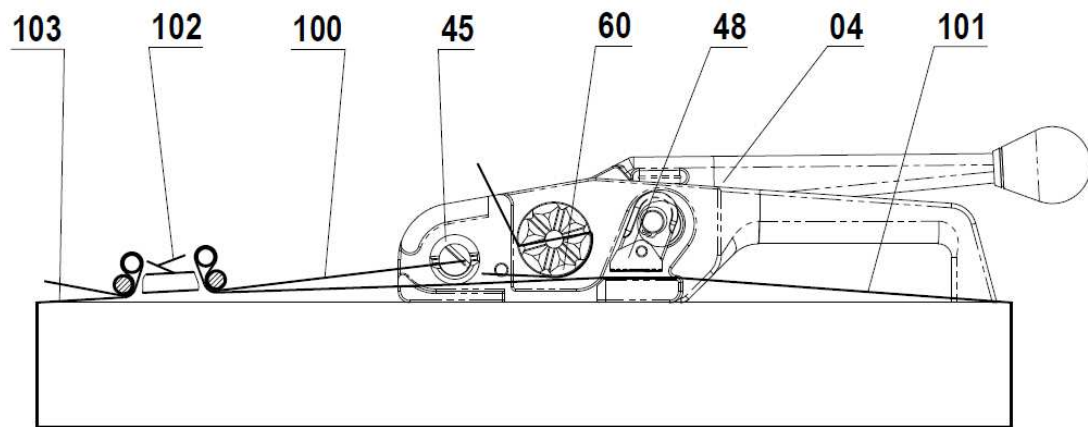

Fig. 5
4. Once satisfactory tension is achieved the strap is ready to be cut. Push down on the **Tension Handle 04** until the strap is cut and slide the tensioner to the right to release the strap from under the **Gripper Foot 48** as shown on Fig. 5. The operation cycle is now complete.